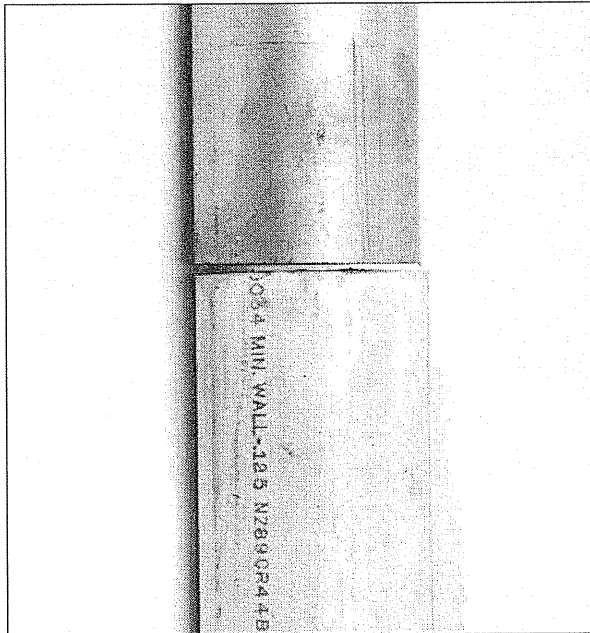
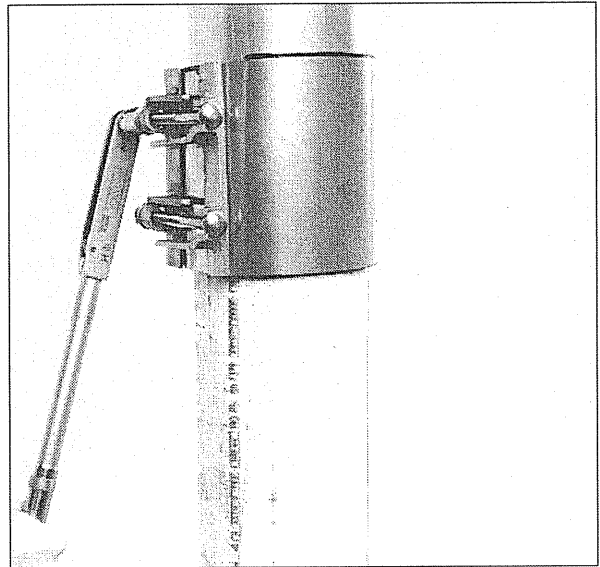
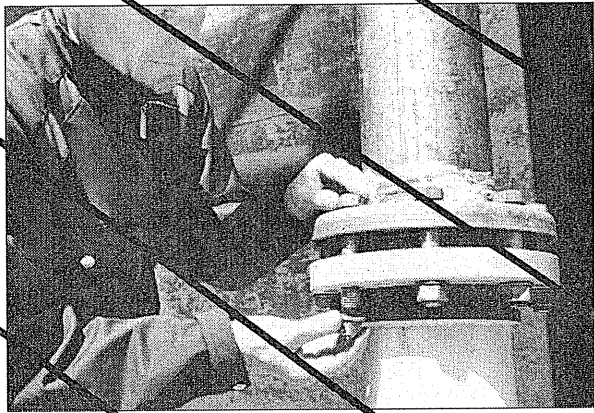

Figure 12
Figure 13
Figure 14
F) Reinstall and/or align the stainless steel portion of the dropleg. The gap between the stainless steel and PVC should be a maximum of 1/8" (3 mm). See Figure 12.
G) Install the clamp coupling or make the flange connection as shown in Figure 13 or 14. The clamp coupling bolts should be torqued to 50-55 ft•lbs (70-75 N•m).
~~Nearly all installations have the PVC and stainless steel pipe sections mating as plain ends (Figure 12) connected with a stainless steel clamp coupling (Figure 13); however, these two sections could mate with a flange connection as shown in Figure 14. If a flange connection is used, the flange overall and socket depths must be considered when cutting the PVC dropleg section.~~